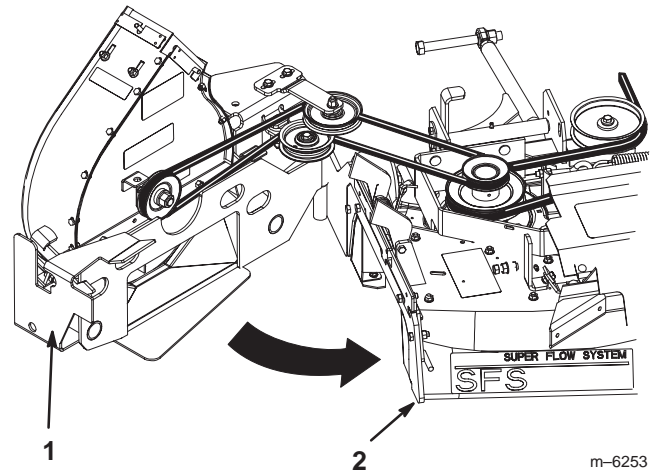

Figure 17
4. Close the blower assembly. (Fig. 17).
6. Close the blower assembly (Fig. 17).
11. Close the blower assembly and ensure the blower front latch engages onto the front peg (Fig. 17).